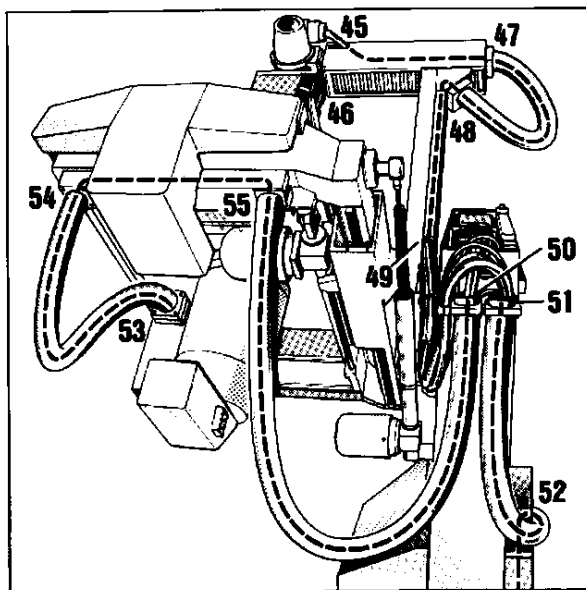

Fig.11
Remove the mounting brackets of the flexible hose (Fig.11, items 47,48,53,54). Take off the trim cover item 55 and dismount the bracket item 52. Remove cover item 46. Route the HV cables, the collimator/stator cables, Bucky and I.I. cables thru the flexible hoses to their designation. Connect cables to the components and ty wrap with no interference between cables and table mechanics.